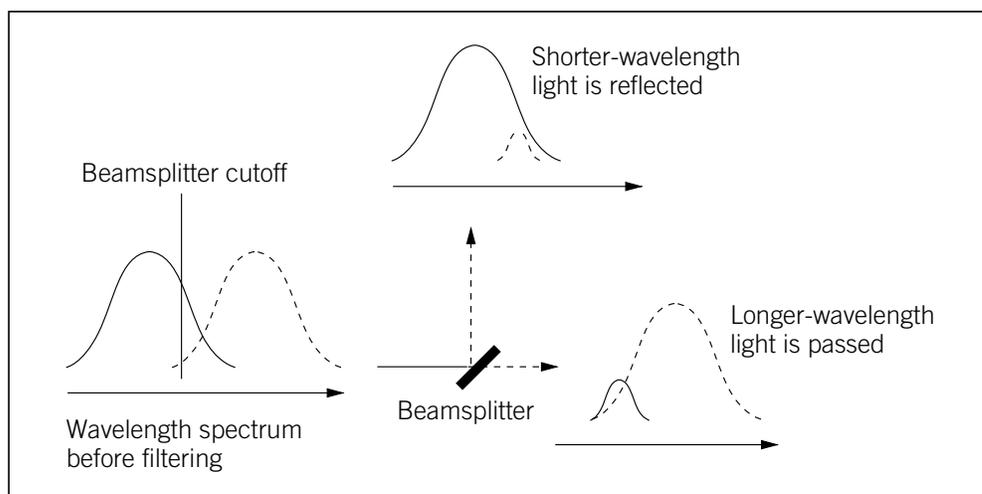

Figure D-4. Effect of a dichroic beamsplitter on light encountering the beamsplitter.
- Light with wavelengths longer than the cutoff passes through the beamsplitter (figure D-4).
- Light with wavelengths shorter than the cutoff is reflected by the beamsplitter (figure D-4).